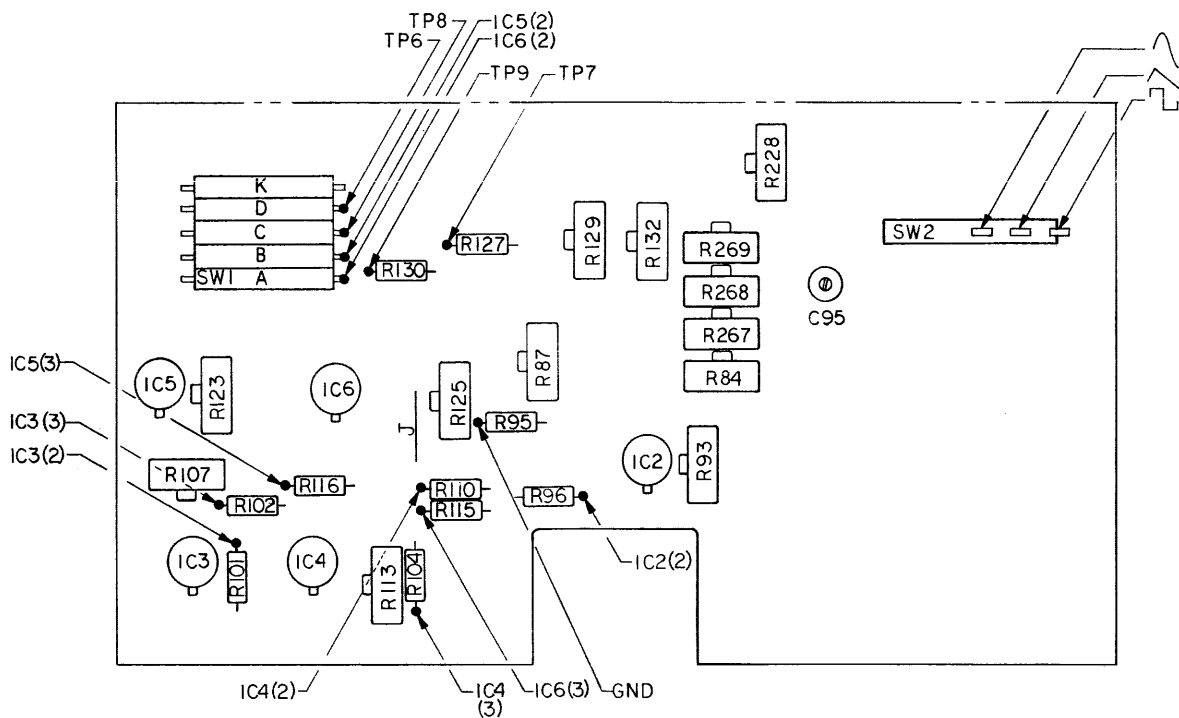

Figure 4-4 - Main Board Test & Calibration Points
- Connect ac power to the instrument, and connect the voltmeter leads to TP1 (common) and TP2 (+15 V) on the Power Supply Board. See Figure 4-4.
- Set the voltage between IC3(2), and IC3(3) to 0 Vdc \pm 100 μ V, using R107. See Figure 4-4.
- Set the voltage between IC4(2), and IC4(3) to 0 Vdc \pm 100 μ V, using R113.
- Set the voltage between IC5(2), and IC5(3) to 0 Vdc \pm 100 μ V, using R123.
- Set the voltage between IC6(2), and IC6(3) to 0 Vdc \pm 100 μ V, using R125.
13. With FREQ DIAL still fully clockwise, set the voltage between IC2(2) and ground (at R95) to 0 Vdc $\pm 100 \mu\text{V}$, using R93.
17. Connect the oscilloscope probe (a type W or 1A5 plug-in module should be used with the scope) to \wedge position of the WAVEFORM selector switch, SW2, see Figure 4-4.
20. Set 30 V P-P MAX control to 3/4ths of full CW, and connect oscilloscope probe to \sim position of the WAVEFORM selector switch (SW2), see Figure 4-4.